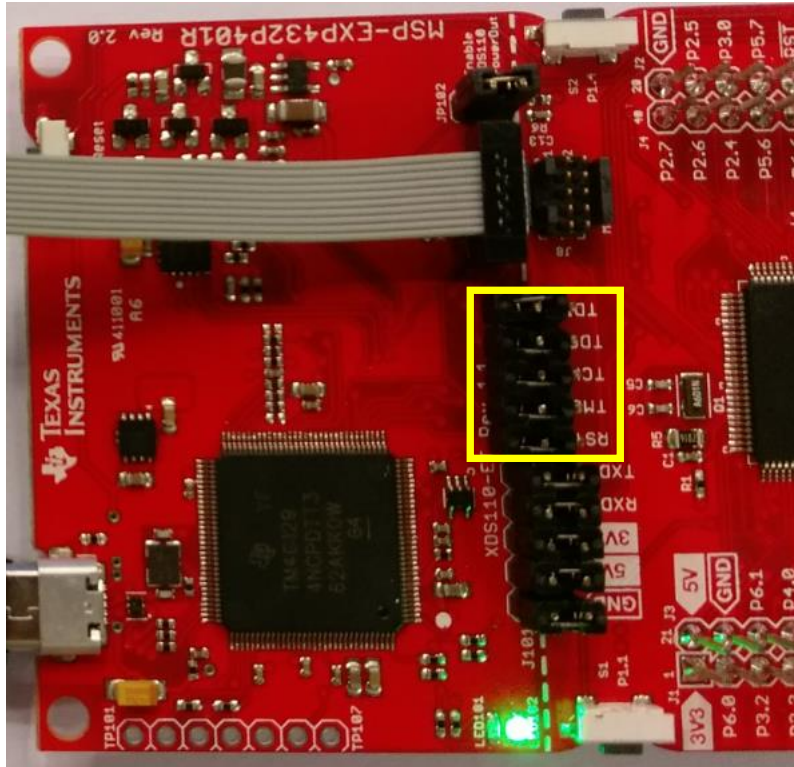

Figure 6. Jumpers to Remove on MSP-EXP432P401R
2. Ensure that the necessary jumpers are removed to isolate the XDS110 from the onboard of MSP-EXP432P401R (see the yellow box in Figure 6). Also, verify that the XDS110 power jumper (JP102) is selected to supply power to the ZB7412E0B.